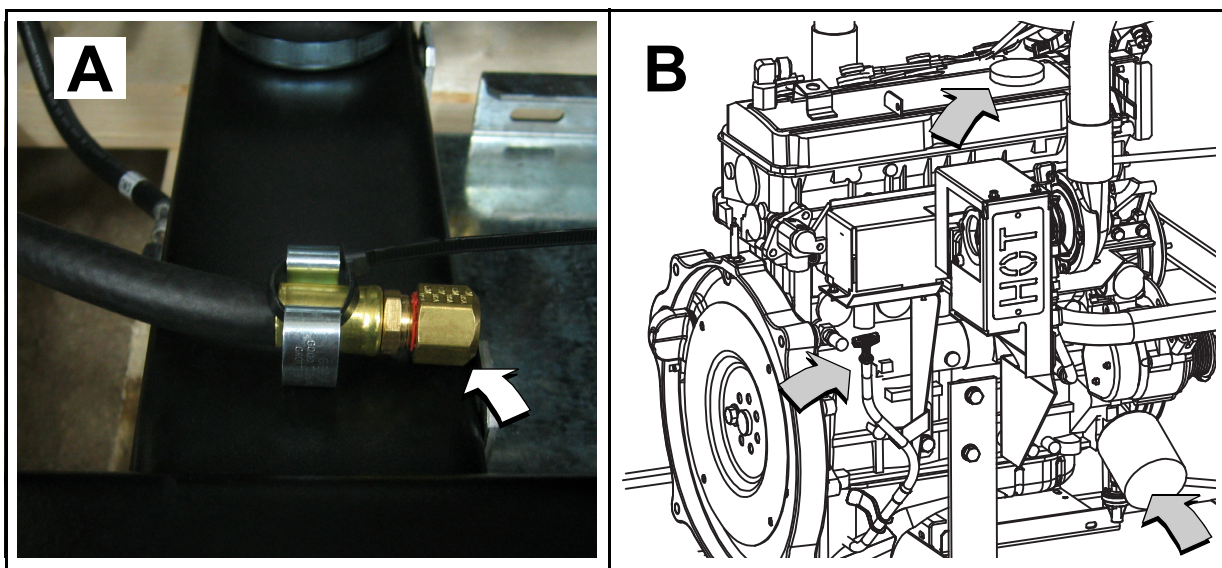

Figure 5-8. Oil Drain Hose, Fill Cap, Dipstick and Filter
1. Remove oil drain hose from holding clamp. See A of Figure 5-8
6. Rotate oil filter counterclockwise to remove from oil filter adapter. See B of Figure 5-8